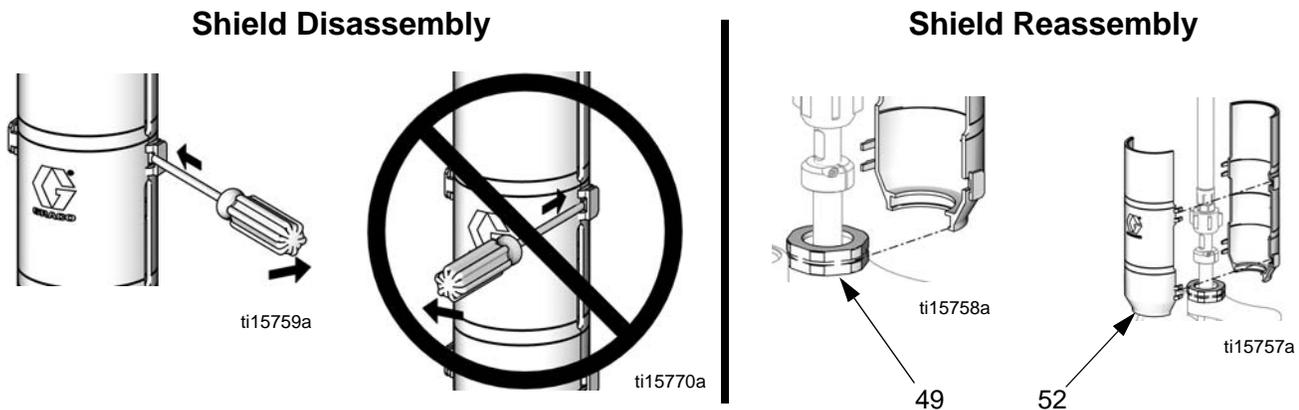

FIG. 2. Disassembly and Reassembly of the Shields
See FIG. 2. Remove the 2-piece shield (52) by inserting a screwdriver straight into the slot, and using it as a lever to release the tab. Repeat for all tabs. **Do not** use the screwdriver to pry the shields apart.